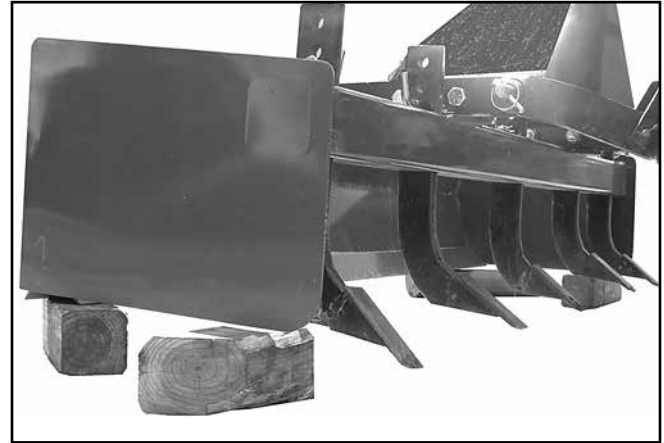

Figure 6. Box Scraper Blocked Up
1. Place two 6" x 6" (15 x 15 cm) blocks under each side frame of the box scraper as shown in Figure 6.
1. Block up machine by placing two 6" x 6" (15 x 15 cm) blocks under each side-frame of the box scraper (see Figure 6).
1. Place two 6" x 6" (15 x 15 cm) blocks under each side-frame of the box scraper (see Figure 6).
1. Block up scraper by placing two 6" x 6" (15.24 cm x 15.24 cm) blocks under each side frame (see Figure 6).